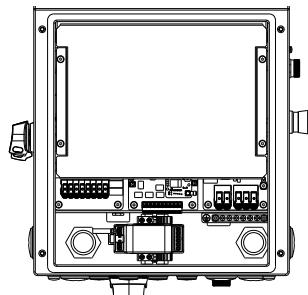

Figure 4.9 Connection Area of Inverter
- Switch the Grid Supply Main Switch (AC) OFF.**
Please see figure 4.9, there are four knockouts in the wiring box. The two knockouts on the left (bottom and side) are for the DC conduit entry. The two knockouts on the right (bottom and side) are for the AC conduit entry. All knockouts in the wiring box can accept trade size 1 inch (ID) conduit.
Please refer to figure 4.9, The acceptable wire size range is from 12 AWG to 10 AWG, copper conductors only; refer to local code for appropriate wire size.
Please see figure 4.9. Both DC and AC ground cable can be connect to ground terminal above DC switch. The acceptable wire size for ground is **12AWG to 4 AWG**. The torque setting is 26 in-lbs (3 Nm).